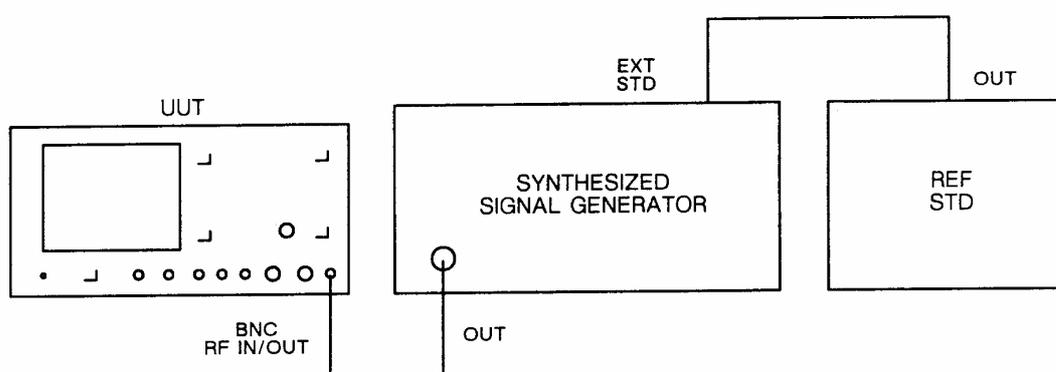

Fig. 5-2-13 Test equipment connections for adjusting R39 on AC1
- (1) Connect the equipment as shown in Fig. 5-2-13, but ensure that the external reference standard has an accuracy better than ± 5 parts in 10^{10} .